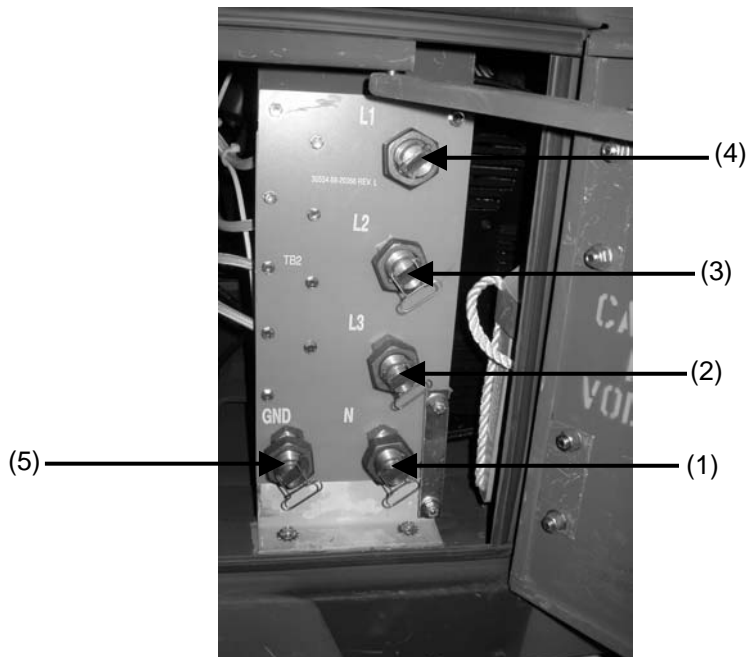

Figure 4-29. Generator terminal compartment.
4. Loosen lug nut on neutral (N) position (1) and remove yellow wire. (Fig. 4-29)
4. Install black wire into L1 position (4) and tighten lug nut (Fig. 4-29).
5. Install red wire into L2 position (3) and tighten lug nut (Fig. 4-29).
6. Install orange wire into L3 position (2) and tighten lug nut (Fig. 4-29).
7. Install four green wires into GND position (5) and tighten lug nut (Fig. 4-29).
8. Install yellow wire into N position (1) and tighten lug nut (Fig. 4-29).